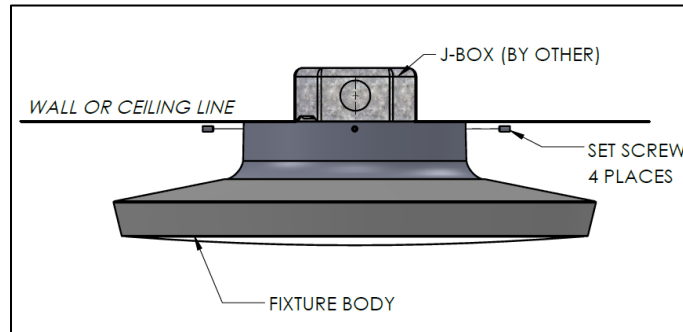

FIG. 9 – FIXTURE BODY INSTALLATION
5. Slide FIXTURE BODY over MOUNTING PLATE. Tighten SET SCREWS to secure FIXTURE (make sure that all the SET SCREWS engage the MOUNTING PLATE in order to safely hold the FIXTURE) as shown below in FIG. 9.